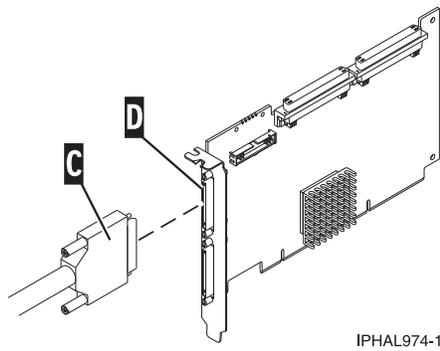

Figure 28. SCSI cable to a SCSI interface card
3. Connect the other end of the SCSI cable (C) to the SCSI adapter (D) on the server. For more details, see Figure 28.